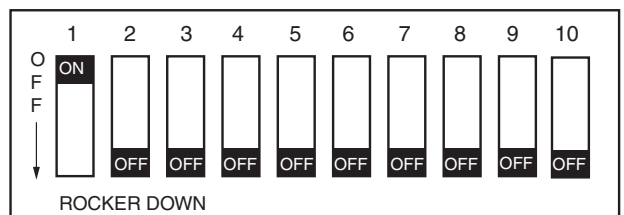

Fig. 65 — CoreSense Communication DIP Switch Settings for Kriwan Retrofit
2. Review the DIP switch settings on the CoreSense module. DIP switch no. 1 should be ON (up position) and all other DIP switches should be OFF (down position). See Fig. 65.